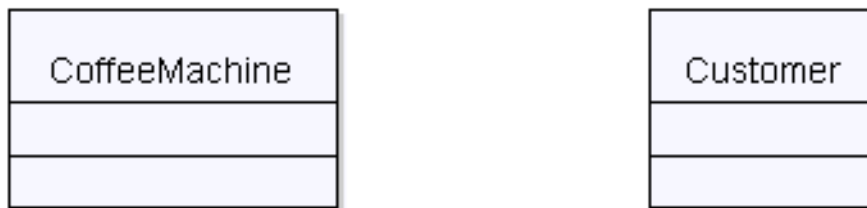

Figure 4: The classes CoffeeMachine and Customer
4. Use the **Class symbol** quick-button to add two classes, click on the button, then click in the diagram to position the class. Name the classes **CoffeeMachine** and **Customer**. These classes represents the coffee machine and a prospective user, see Figure 4 on page 10.